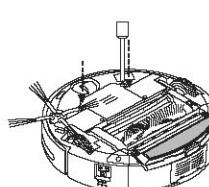

Figure 1
1. Release the screw with the screw-driver, open its base plate and then take out the battery. (Refer to Figure 1 and Figure 2)